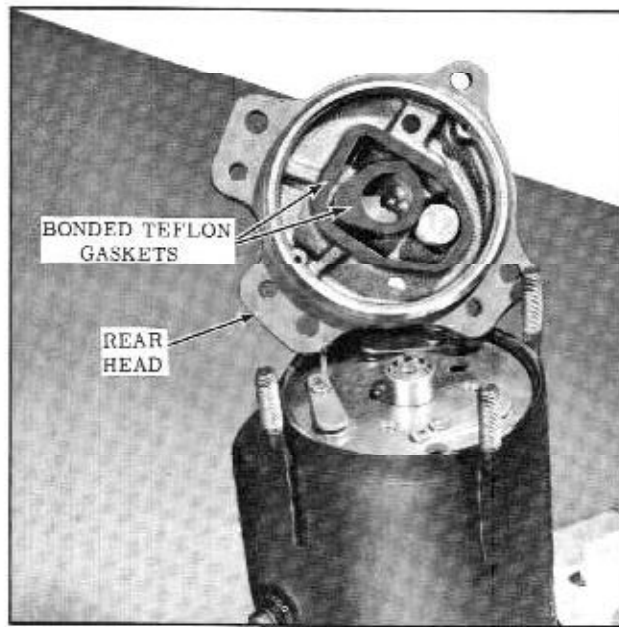

Fig. 14-40 Rear Head Removal
3. Remove the rear head, inspect teflon gaskets on the casting. If teflon gaskets are damaged replace the rear head. (Fig. 14-40)